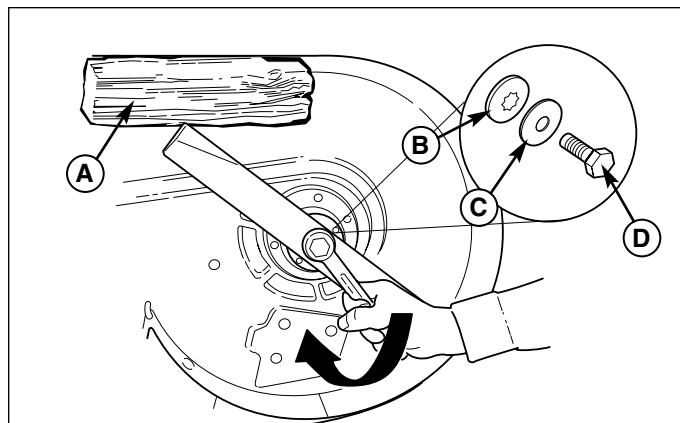

Figure 5. Blade Torque
1. Secure the hex washer (B, Figure 5), spring washer (C) and capscrew (D). Use a wooden block (A) to prevent blade rotation while tightening the blade bolt (D) to 45-55 ft. lbs. (61-75 Nm).